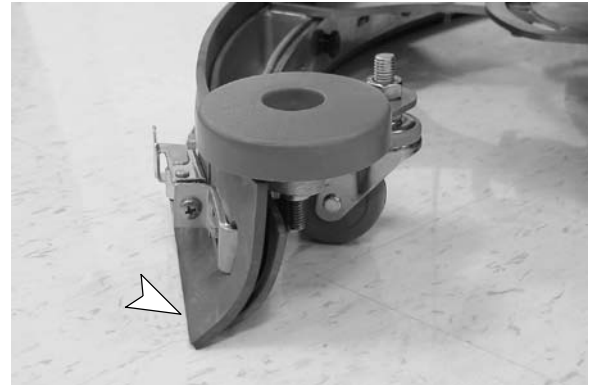

FIG. 40
3. During machine operation, with the casters properly adjusted, the squeegee blades should deflect as shown (Figure 40).